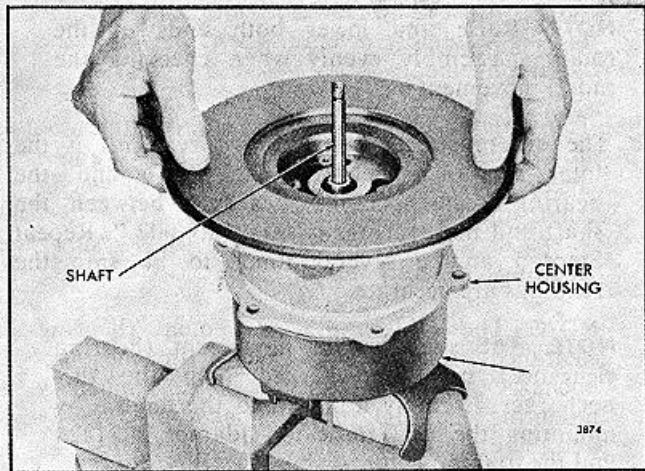

FIG. 25 - Installing Center Housing on Shaft
3. Lubricate the shaft bearing journals with engine oil, then place the center housing over the shaft with the turbine end of the housing facing down. Carefully lower the center housing straight down over the shaft until it seats on the hub of the turbine wheel (Fig. 25).